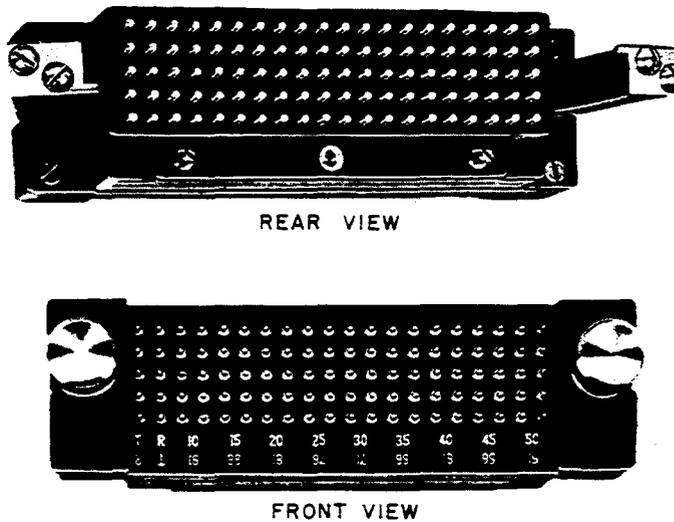

Figure 16—G Test Connector (AT-8353) — For 302-Type Connectors
5.07 The G test connector (Figure 16) is used to make test contacts with the 50 pairs of recessed, gold-plated test terminals on either of the two test terminal fields of the 302A4, 302B4, or 302E3 connector used on the double-sided protector frames. The test connector contains 100 (50 pairs) spring-loaded contacts. It has two sets of pair numbering, one inverted from the other for use on either test field of the connector.